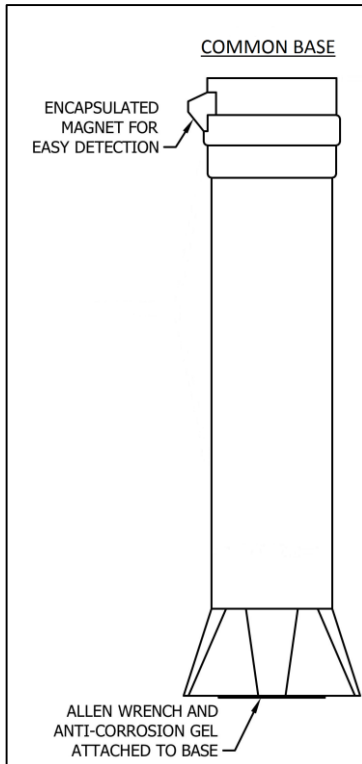

Fig. 1
2. Remove anti-corrosion gel pack and Allen wrench from base; set aside (Fig. 1).